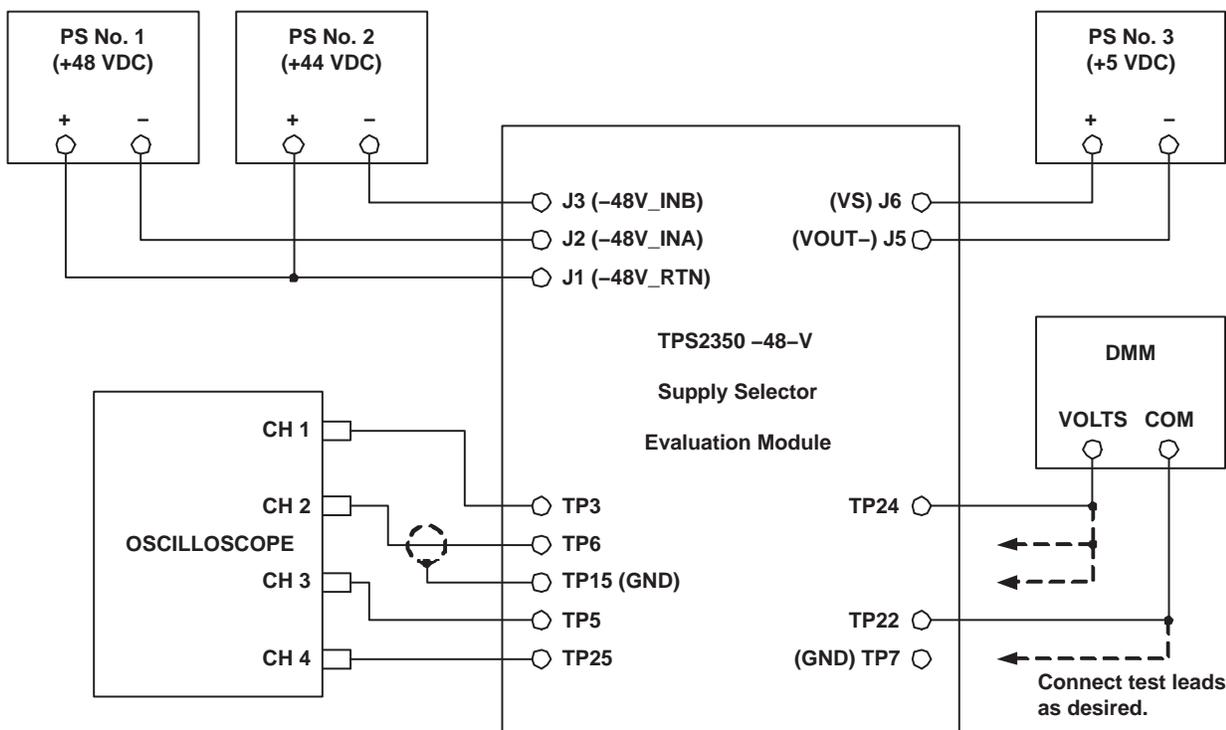

Figure 4. TPS2350 -48-V Supply Selector EVM Equipment Setup
Connect the EVM and test equipment as shown in Figure 4.
Supply connections to the EVM should be made to the banana jacks as shown in Figure 4. The two backplane, 48-V supplies (PS No. 1 and PS No. 2 in Figure 4) connect between J1 and J2 and J1 and J3, respectively. The polarity of the circuit is such that the HI or (+) outputs of the supplies connect to J1, $-48V_RTN$. The LO or (-) jacks connect to J2 ($-48V_INA$) and J3 ($-48V_INB$). PCB header J6 (VS) is used to connect an external pull-up source when using the MOD_EN output of the EVM. This supply is referenced to the VOUT- node at J5.
The EVM can be used to get an illustration of the relationship between current limit, inrush slew rate, load values, and the circuit's fault timing requirements. With DIP switch SW1-1 only closed, the fastest of the preset slew rates is selected, and only the hard-wired timing capacitor C6 is connected to the TPS2350 controller. However, this is sufficient to allow the bulk capacitor C8 to fully charge, from 0 V, across the full range of input supply voltages, down to -80 V. This can be observed by connecting input power as shown in Figure 4, displaying the VOUT- node on an oscilloscope, and enabling the device.